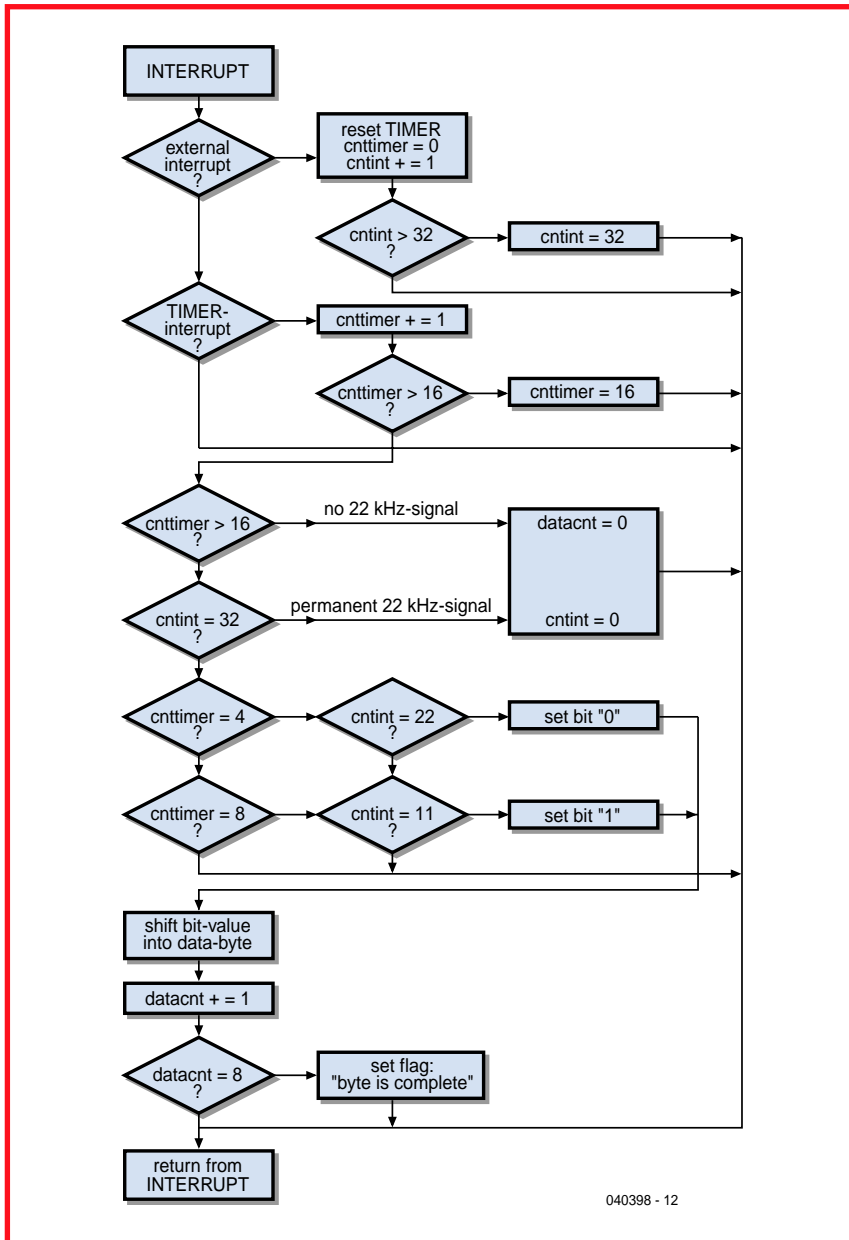

Figure 2. Simplified flowchart of the interrupt routine.
**Figure 2** shows a simplified flowchart of the interrupt routine. We will now look briefly at two important parts of the code.